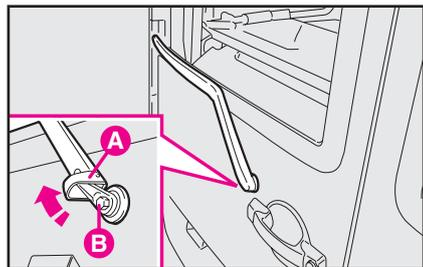
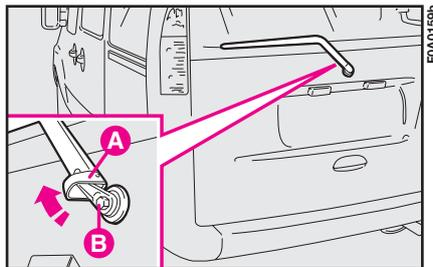

fig. 24
fig. 25
- 1) Lift the cover **A**-fig. 24 and **fig. 25** and dismantle the arm from the vehicle by unscrewing the nut **B** which holds it onto the knuckle.